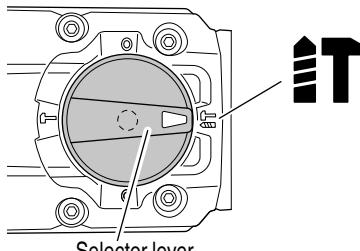

Fig. 12
(1) Switching to "rotation + hammering"
- (b) Align ▲ of the selector lever and **T** of the crank cover as illustrated in Fig. 12.